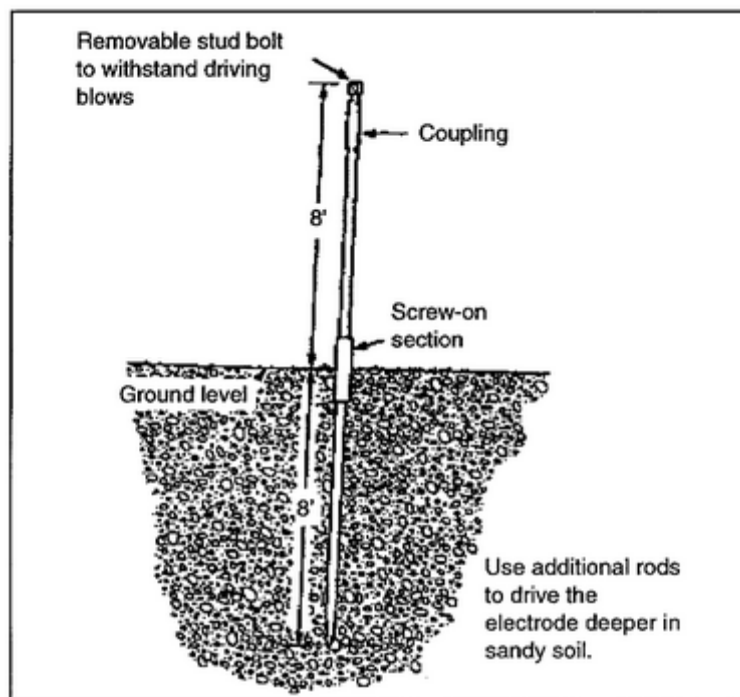

Figure 1-14. Grounding rod reaching the water table
- b. Drive grounding rods deeper, if necessary, to reach the water table (Figure 1-14).